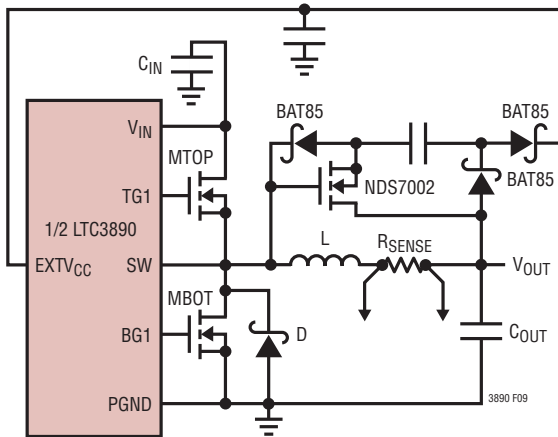

Figure 9. Capacitive Charge Pump for EXTVCc
4. EXTVCC Connected to an Output-Derived Boost Network. For 3.3V and other low voltage regulators, efficiency gains can still be realized by connecting EXTVCC to an output-derived voltage that has been boosted to greater than 4.7V. This can be done with the capacitive charge pump shown in Figure 9. Ensure that EXTVCC < VIN.